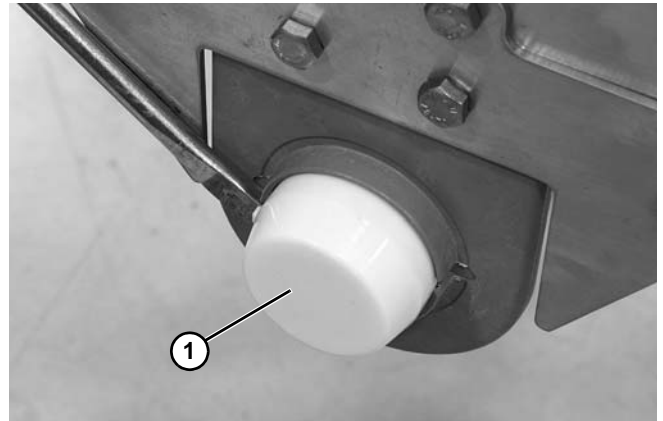

Figure 56
4. Remove bearing cap (Figure 56, item 1).